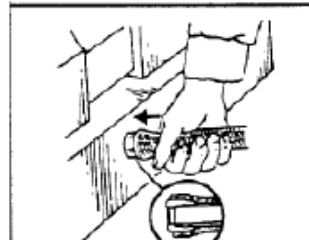

Figure 5
7. With the nipple held in the vise, push the hose and the sleeve onto the nipple until the sleeve bottoms. Remove the hose and make sure the Teflon tube is still bottomed against the shoulder of the sleeve and the sleeve is still square. **(Figure 5)**